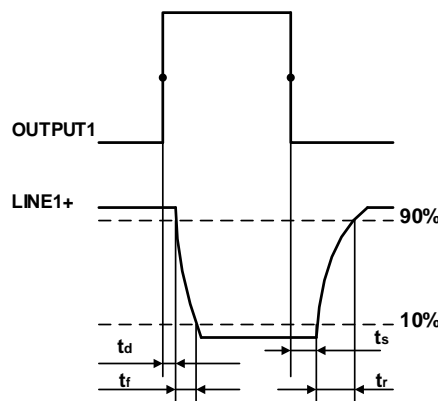

Figure 7-6 Parameter of opto-isolated output circuit
- Rising time delay = t_r+t_d : $<50\mu s$ ($0^\circ C\sim 45^\circ C$) (parameter description is shown in Figure 7-6)
- Falling time delay = t_s+t_f : $<50\mu s$ ($0^\circ C\sim 45^\circ C$) (parameter description is shown in Figure 7-6)
- Rising time delay = tr+td: <20μs (0°C~45°C) (parameter description as shown in Figure 7-6)
- Falling time delay = ts+tf: <20μs (0°C~45°C) (parameter description as shown in Figure 7-6)